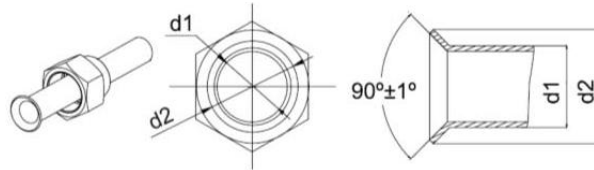

Fig. 4.10
3. Remove the flare nuts at the stop valve of the outdoor unit and inside the accessory bag of the indoor unit, then put them onto the connection pipe as shown in Figure 4.10, after that, flare the connection pipe with a flaring tool.
4. Check if the flare part is spread evenly and there are no cracks (see Fig. 4.10).